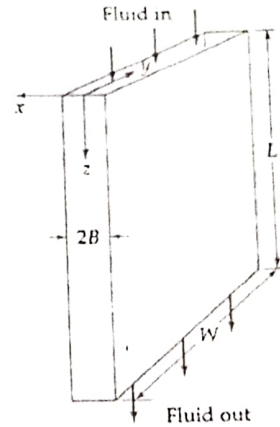

Figure 2
| Q 3 An incompressible Newtonian fluid is in laminar flow in a narrow slit by two parallel walls a distance $2B$ apart as shown in figure 2. It is understood that $B \ll W$, so that "edge effects" are unimportant. The fluid is flowing under pressure and gravity forces. The wall at $x = -B$ is stationary while the wall at $x = B$ is moving in the positive z direction at a steady speed v_0 . Show with the help of governing equations given in Appendix I, the momentum flux and velocity distribution in the narrow slit is given by Eq. (1) and (2) respectively. State the assumptions clearly. | (10) |